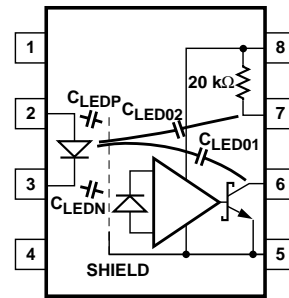

Figure 21. Optocoupler Input to Output Capacitance Model for Shielded Optocouplers.
Without a detector shield, the dominant cause of optocoupler CMR failure is capacitive coupling from the input side of the optocoupler, through the package, to the detector IC as shown in Figure 20. The HCPL-4506, HCPL-0466 and HCNW4506 improve CMR performance by using a detector IC with an optically transparent Faraday shield, which diverts the capacitively coupled current away from the sensitive IC circuitry. However, this shield does not eliminate the capacitive coupling between the LED and the optocoupler output pins and output ground as shown in Figure 21. This capacitive coupling causes perturbations in the LED current during common mode transients and becomes the major source of CMR failures for a shielded optocoupler. The main design objective of a high CMR LED drive circuit becomes keeping the LED in the proper state (on or off) during common mode transients. For example, the recommended application circuit
Another cause of CMR failure for a shielded optocoupler is direct coupling to the optocoupler output pins through CLEDO1 and CLEDO2 in Figure 21. Many factors influence the effect and magnitude of the direct coupling including: the use of an internal or external output pull-up resistor, the position of the LED current setting resistor, the connection of the unused input package pins, and the value of the capacitor at the optocoupler output (CL).